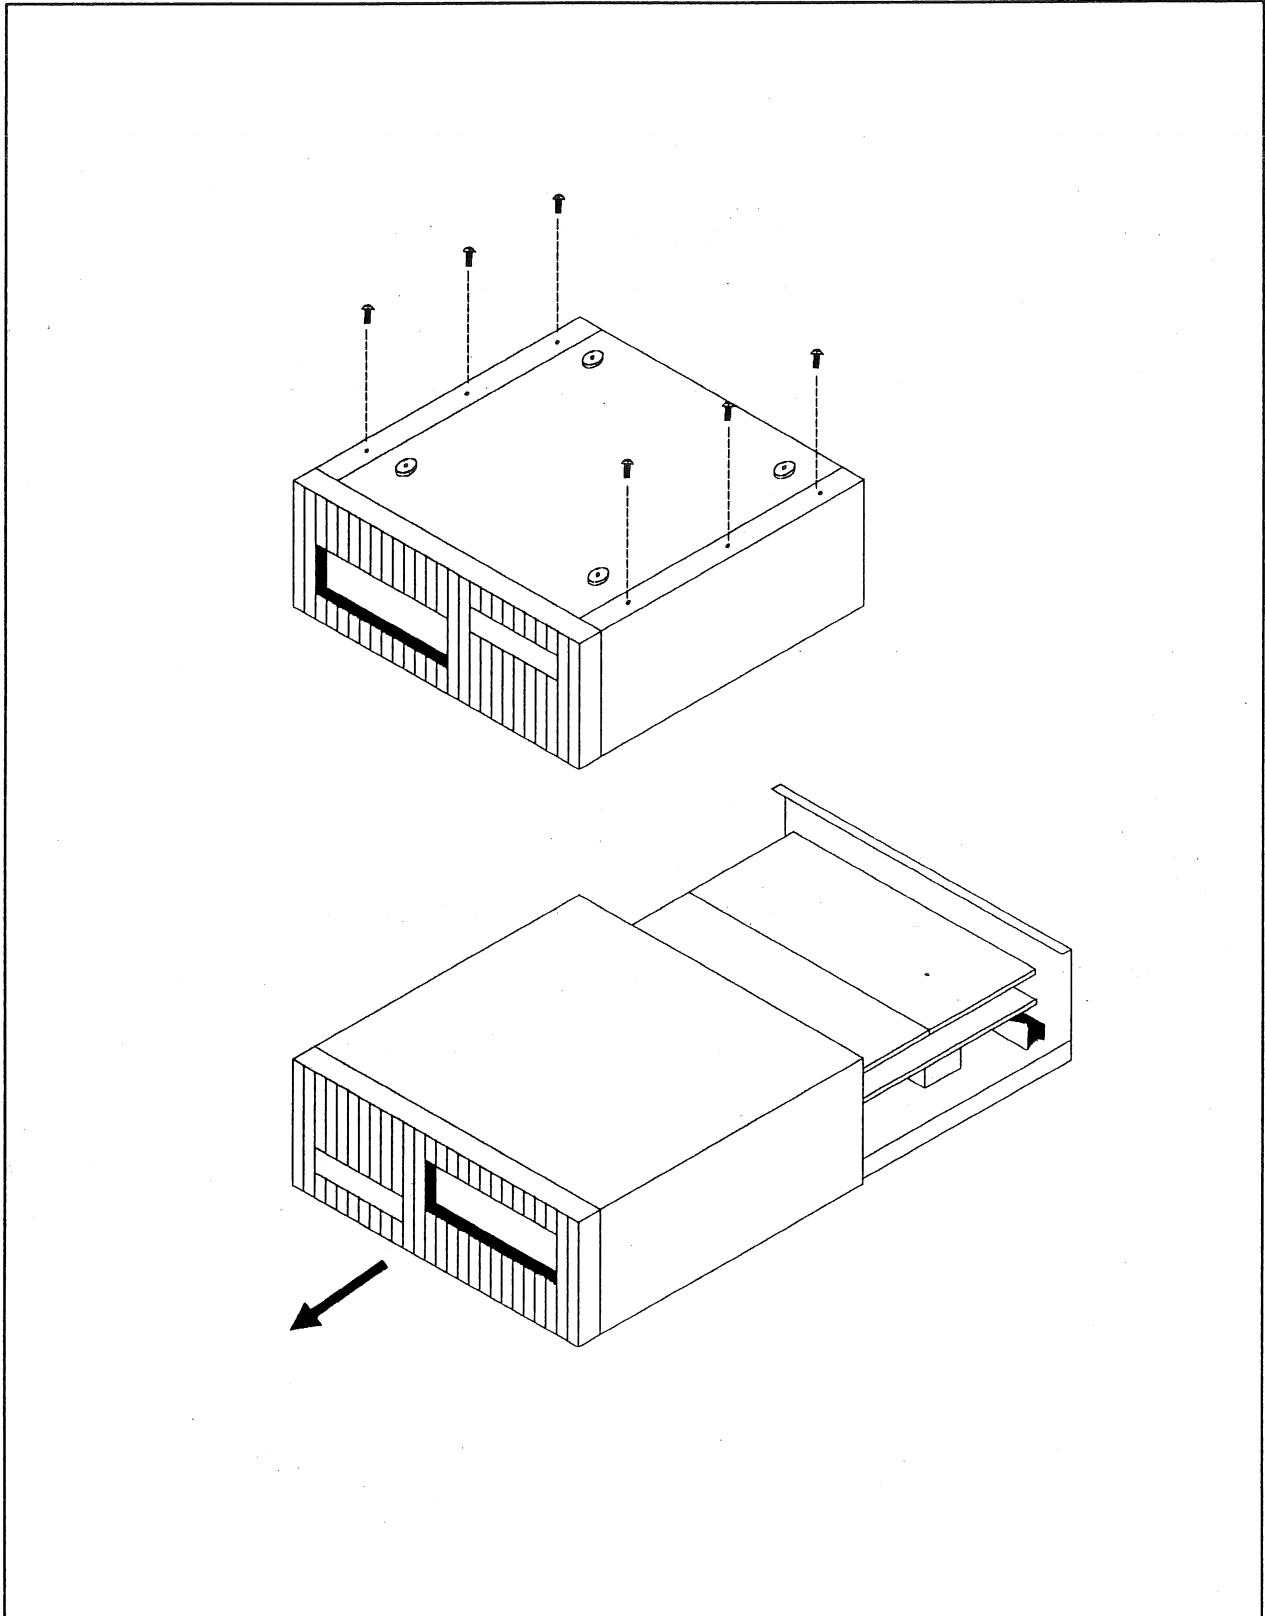

Figure 3-1. Removing the 2630 Cover
- 4** Remove the six screws from the bottom of the chassis as shown in Figure 3-1.